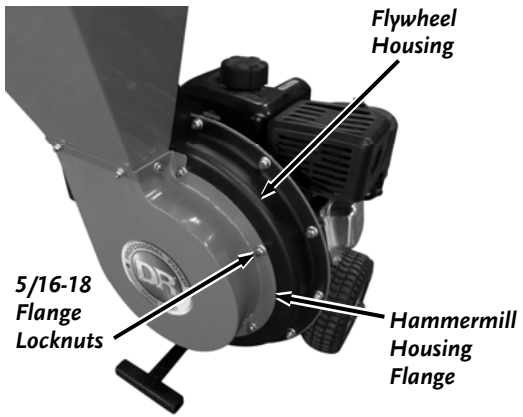
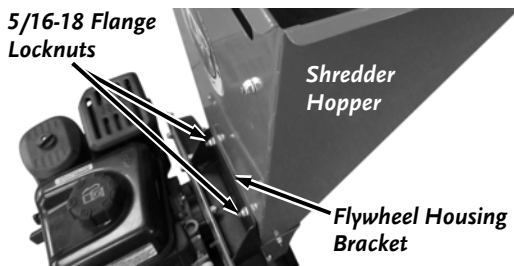

Figure 8
Figure 9
3. Position the Hammermill Housing/Shredder Hopper Assembly onto the seven studs of the Flywheel Housing (**Figure 8**). The two studs at the back of the Shredder Hopper will go through slots in the Flywheel Housing Bracket (**Figure 9**).
4. Check the fit between the Hammermill Housing Flange to the Flywheel Housing (**Figure 8**). If there are any noticeable gaps, continue to step 5. If there are no noticeable gaps, go to step 6.
6. **Manual Start Model** - Secure the Hammermill Housing/Shredder Hopper Assembly with nine (seven in front and two in back) 5/16-18 Flange Locknuts using a 1/2" Wrench (**Figure 8 and 9**).
Secure the Hammermill Housing/Shredder Hopper Assembly with seven (five in front and two in back) 5/16-18 Flange Locknuts using a 1/2" Wrench (**Figure 8 and 9**).